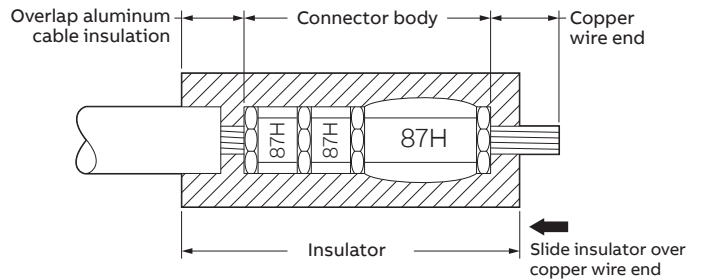

Figure 6
- Slip the wide opening of the insulator over the copper wire end and pull the insulator over the connector body and the aluminum cable insulation. The entire length of the insulator should be supported by the connector body and aluminum cable (Figure 6).